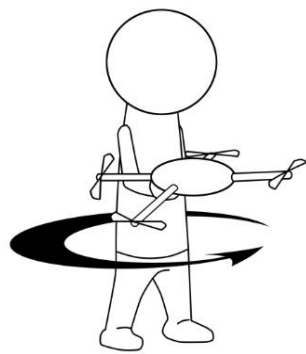

Figure 41
4. **Hold the aircraft horizontally** (within a status error of 5° which can be maintained if you hold the aircraft with both hands, as shown in Figure 41), turn around two or three times